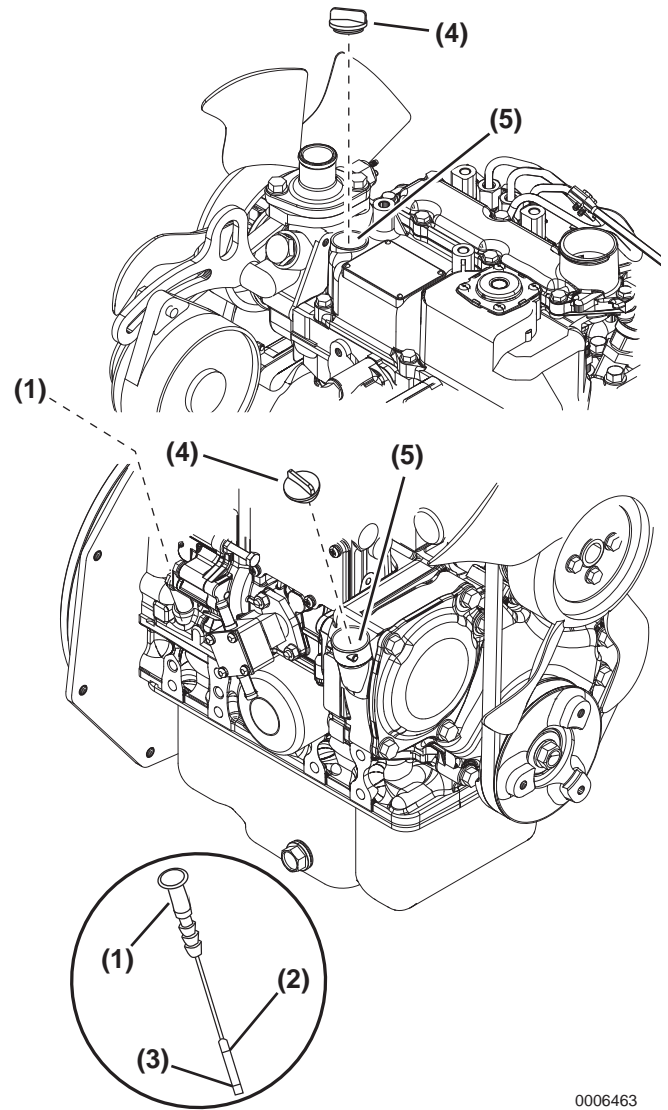

Figure 4-6
2. Remove dipstick (Figure 4-6, (1)) and wipe with clean cloth. *NOTICE: Prevent dirt and debris from contaminating the engine oil. Carefully clean the oil cap / dipstick and the surrounding area before you remove the cap.*
4. Remove dipstick. The oil level should be between upper (Figure 4-6, (2)) and lower (Figure 4-6, (3)) lines on the dipstick. *NOTICE: ALWAYS keep the oil level between the upper and lower lines on the dipstick.*
2. Remove oil cap (Figure 4-6, (4)).
3. Add indicated amount of engine oil at the top or side engine oil filler port (Figure 4-6, (5)). **Note: Either fill location may be used.**
6. Replace oil cap (Figure 4-6, (4)) and hand-tighten. Over-tightening may damage the cap.